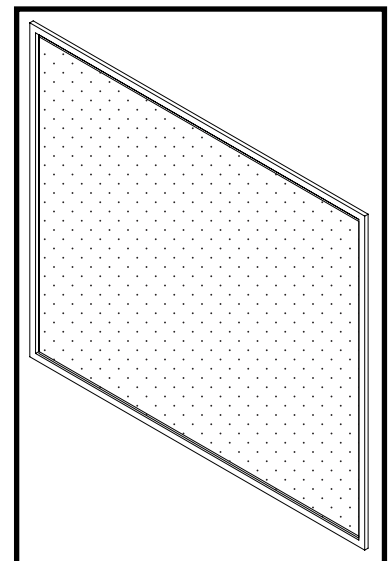

Figure 86: T&C safety barrier screen.
6. Attach the magnetic safety barrier screen (Figure 86) to the outer-most door frame.